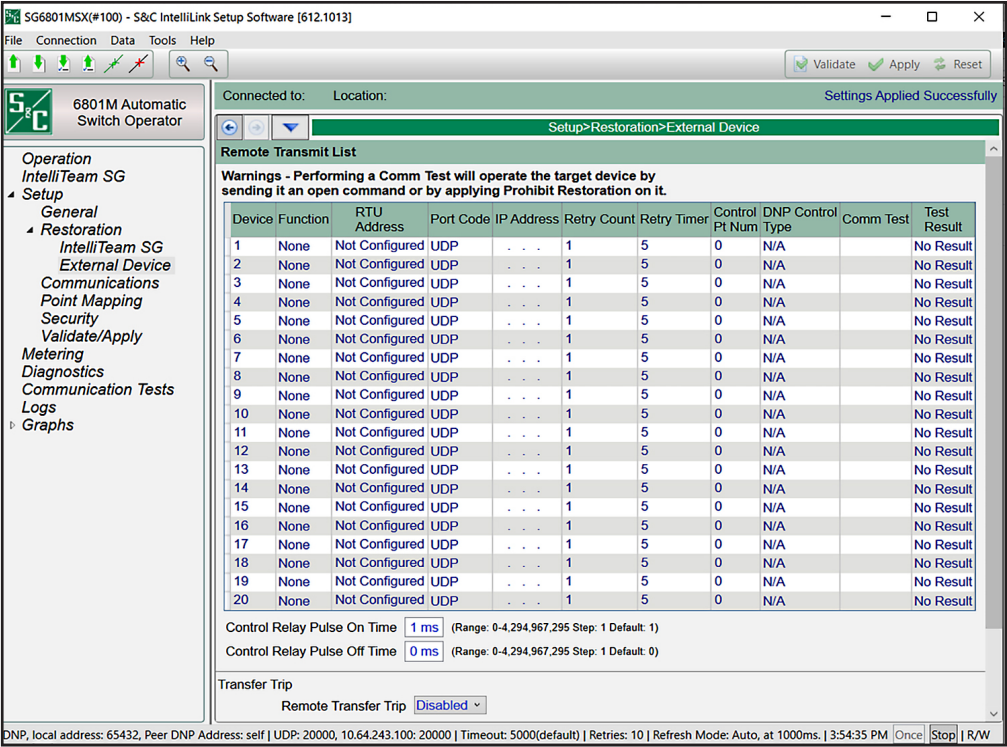

Figure 25. The Setup>Restoration>External Device screen Remote Transmit List.
Transfer Trip commands are sent from the device to distributed generation (DG) resources within the distribution system immediately upon detection of a circuit anomaly so the DG does not interfere with IntelliTeam system restoration activities. This action is both for safety reasons and for the protection of load. See Figure 25 on page 77.
With firmware versions 7.5.x and later, the **Remote Prohibit Restoration List** and **Remote Transfer Trip List** functions have been combined into a single table called, “Remote Transmit List.” This table is on the *Setup>Restoration>External Device* screen and includes the same functionality for sending a **Remote Prohibit Restoration** or **Remote Transfer Trip** command to remote devices as was available in the 7.3.x firmware release. See Figure 25